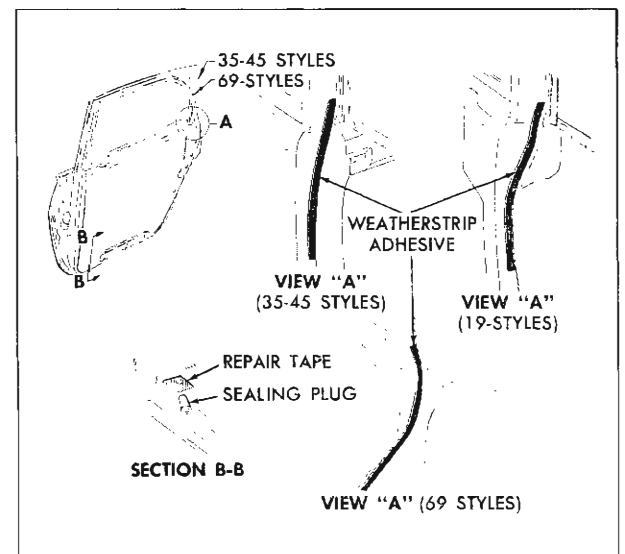

Fig. 3-35 Weatherstrip Adhesive Application
3. Carefully break cement bond securing weatherstrip to door. If necessary, a flat-bladed tool, such as a putty knife, can be used to help break cement bond (see Fig. 3-35).
3. Clean off old cement from door to insure a clean cementing surface. Apply a bead of an approved weatherstrip adhesive to hinge and lock pillar facings of door. Begin adhesive application slightly above belt line and continue down door for approximately seven to nine inches. If necessary, weatherstrip adhesive can also be applied to lower corners of door (see Fig. 3-35).